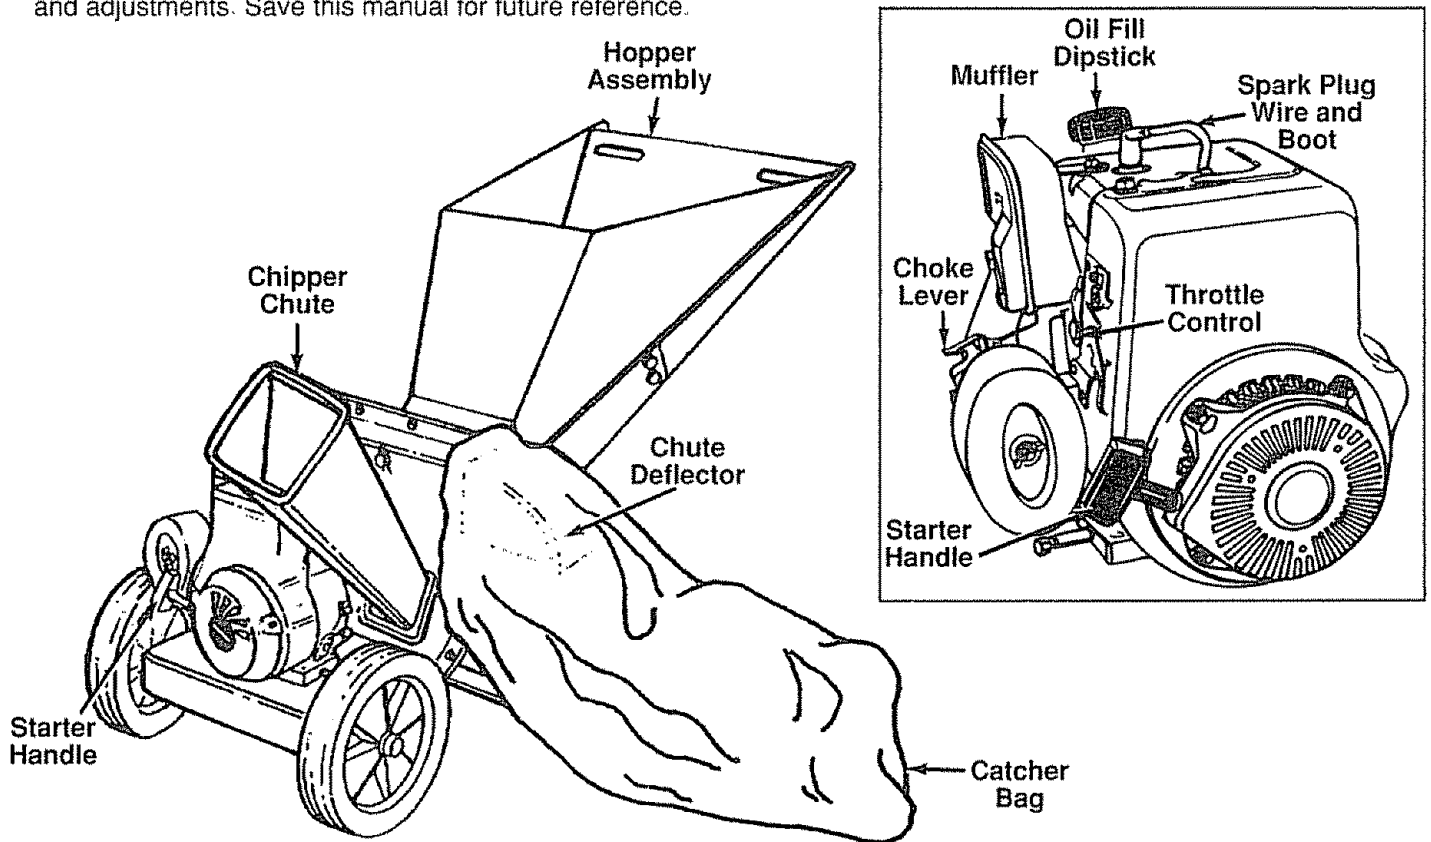

FIGURE 6.
#### OPERATING CONTROLS (See figure 6)
- Move throttle control lever to OFF position. See figure 6.